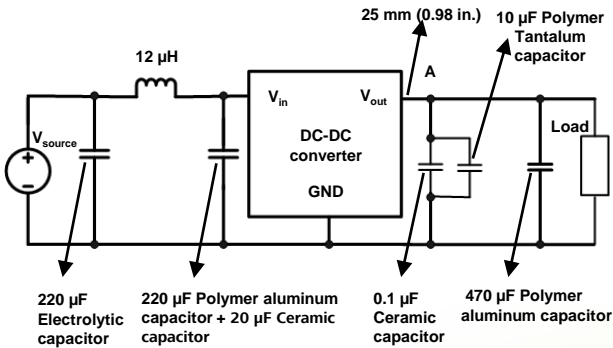

Figure 61: Test set-up diagram
1. Measure the output voltage ripple at A respectively shown in Figure 61.